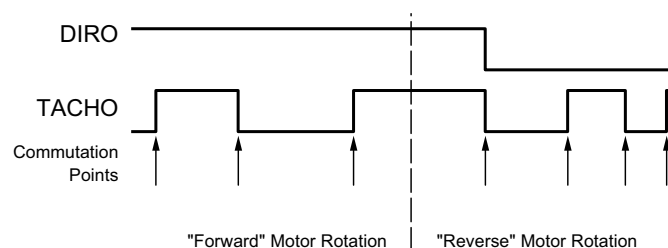

Figure 1: Direction Indication Outputs
**TACHO and DIRO.** These outputs provide speed and direction information based on the HE inputs from the motor. As shown in Figure 1, at each commutation point, the TACHO output changes state independent of motor direction. The DIRO output is updated at each commutation point to show the motor direction. When the motor is rotating in the forward or positive direction, DIRO is high. When rotation is in the reverse or negative direction, DIRO is low. The actual direction of rotation is determined from the sequence of the three Hall inputs, Hx. Forward is when the sequence follows Table 2 top-to-bottom and reverse when the sequence follows Table 2 bottom-to-top.